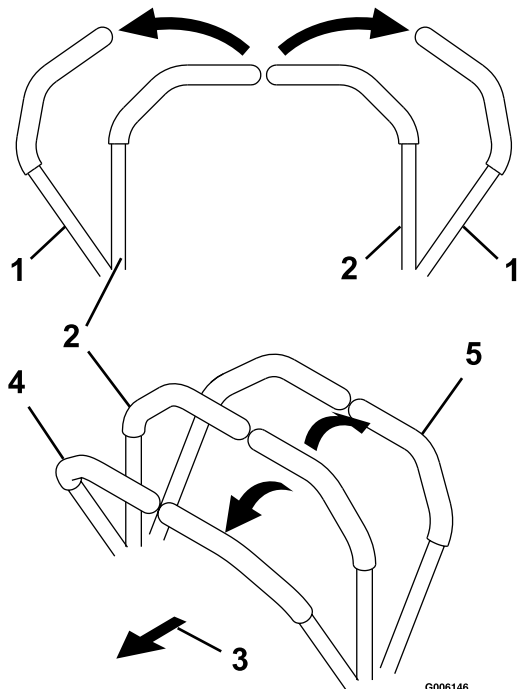
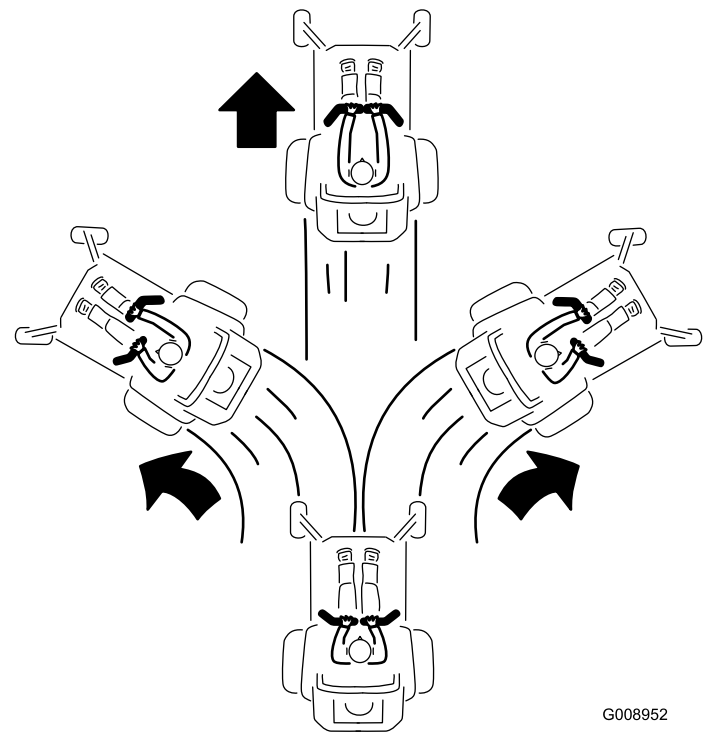
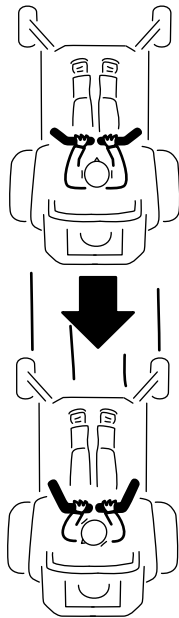

Figure 10
Figure 11
Figure 12
2. To go forward, slowly push the motion control levers forward (Figure 10).
To go straight, apply equal pressure to both motion control levers (Figure 10 and Figure 11).
To turn, pull back on the motion control lever toward the direction you want to turn (Figure 10 and Figure 11).
2. To go backward, slowly pull the motion control levers rearward (Figure 10 and Figure 12).
To go straight, apply equal pressure to both motion control levers (Figure 10 and Figure 12).
To turn, release the pressure on the motion control lever toward the direction you want to turn (Figure 10 and Figure 12).